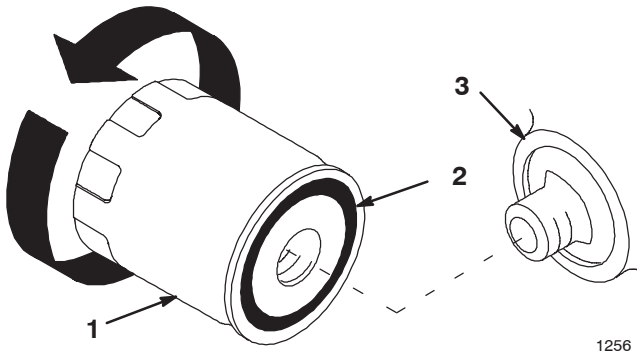

Figure 29
- Remove the old filter (Fig. 29).
- Wipe the filter adapter gasket surface (Fig. 29).
- Apply a thin coat of new oil to the rubber gasket on the replacement filter (Fig. 29).
- Install the replacement oil filter to the filter adapter. Turn the oil filter clockwise until the rubber gasket contacts the filter adapter, then tighten the filter an additional 1/2 turn (Fig. 29).